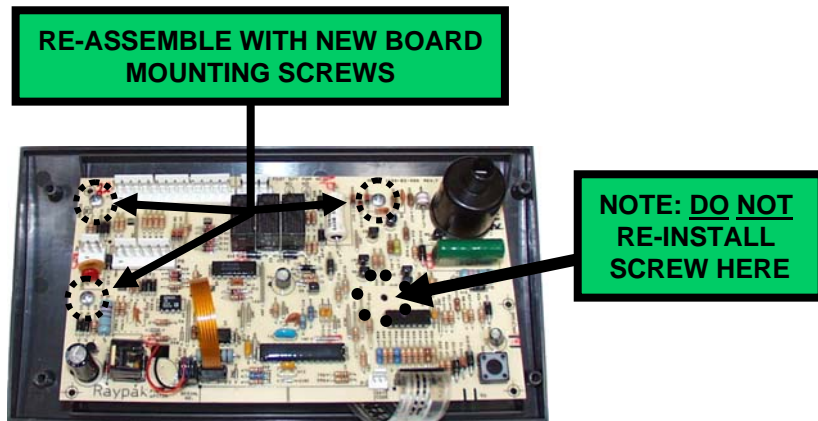

Fig. 26
2. Re-assemble with new board to plastic bezel using the three mounting screws as shown in **Fig. 26**.